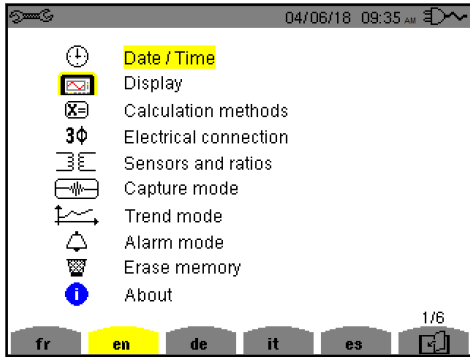

Figure 1-4
2. Press the Configuration  button. This displays the Configuration menu (Figure 1-4).